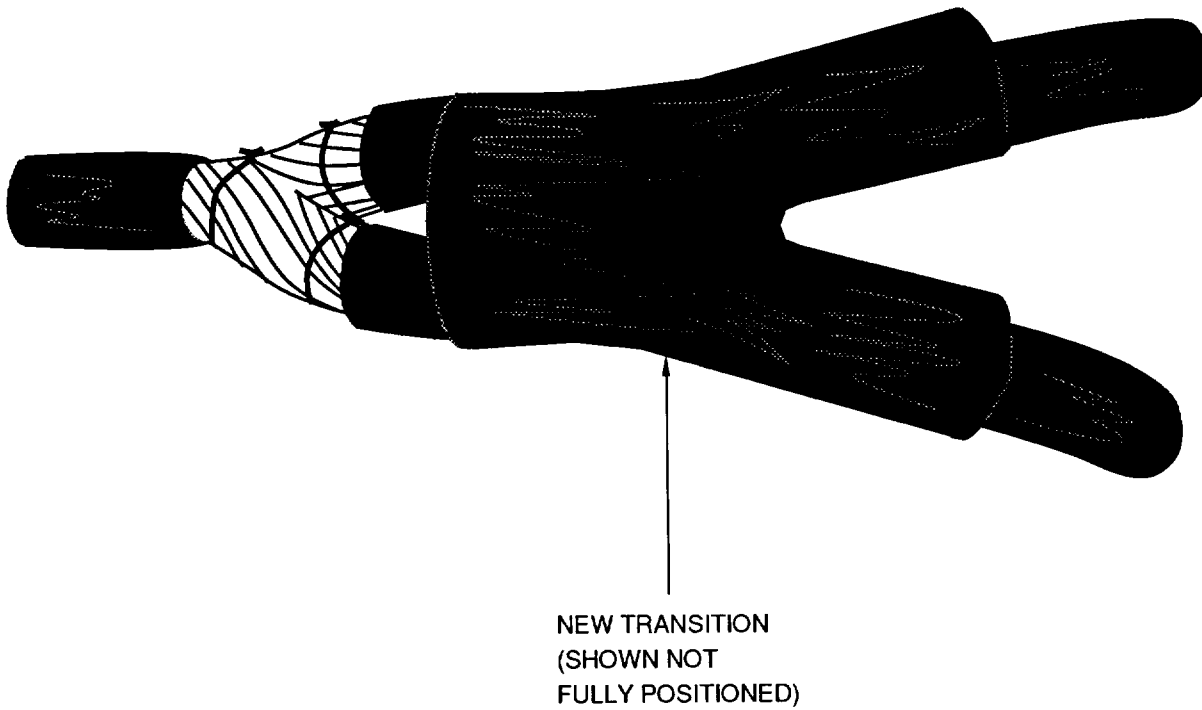
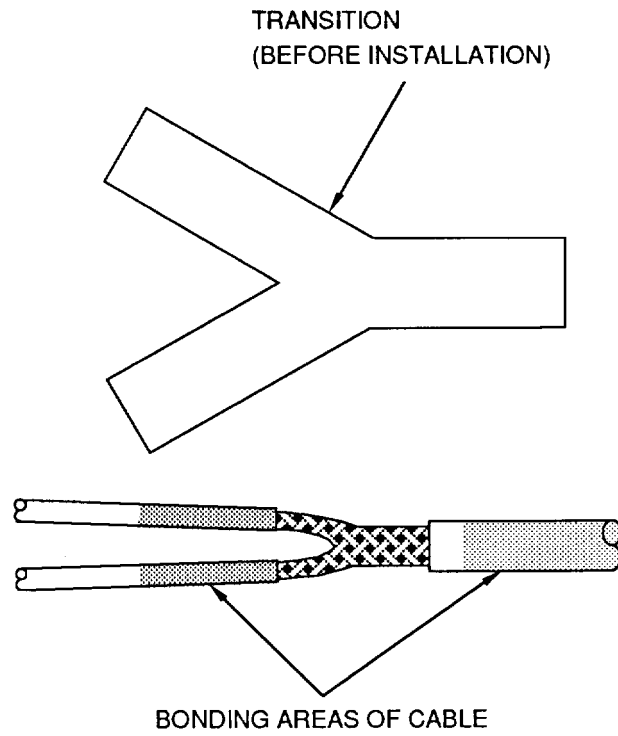

Figure 22. Transition Installation
Figure 23. Adhesive Application
- g. Slide new transition over harness (Figure 22).
- (1) If connector and boot are too large to permit transition to pass over remove connector in accordance with WP 016 00 and WP 020 00.
- h. Apply adhesive to bonding areas (Figure 23).
- (1) Install boot (Paragraph 24).
- (2) Install connector in accordance with WP 016 00 and WP 020 00.